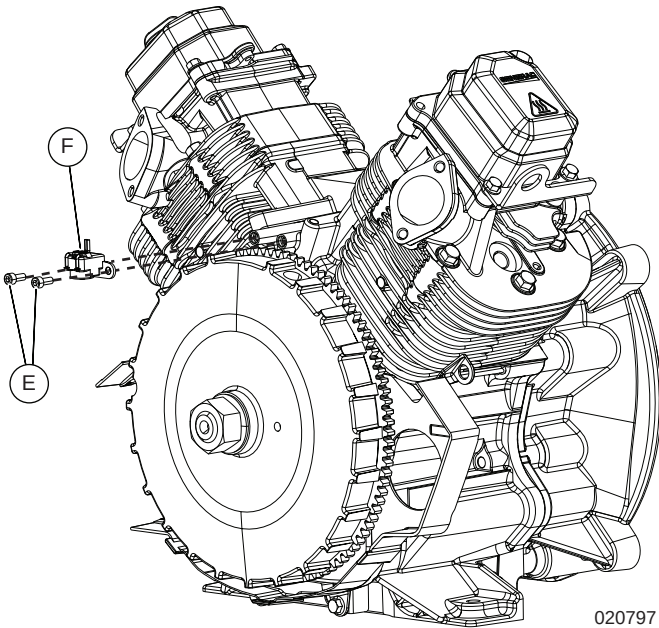

Figure 6-29. Remove Crankshaft Position Sensor
2. See Figure 6-29. Remove bolts (E) securing crankshaft position sensor (F). Remove sensor from engine.